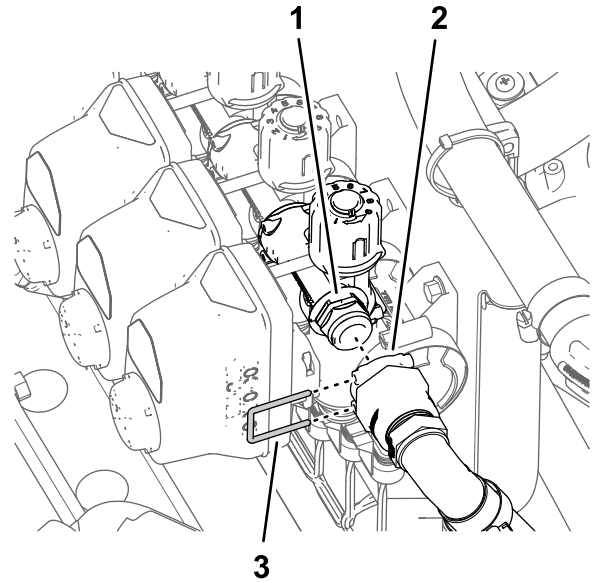

Figure 113
- Assemble the quick-connect fitting of the bypass hose to the quick disconnect fitting at the bypass valve at nozzle valve 10 (Figure 113).
- Secure the quick disconnect fittings for the bypass hose and the bypass valve with the retainer (Figure 113).